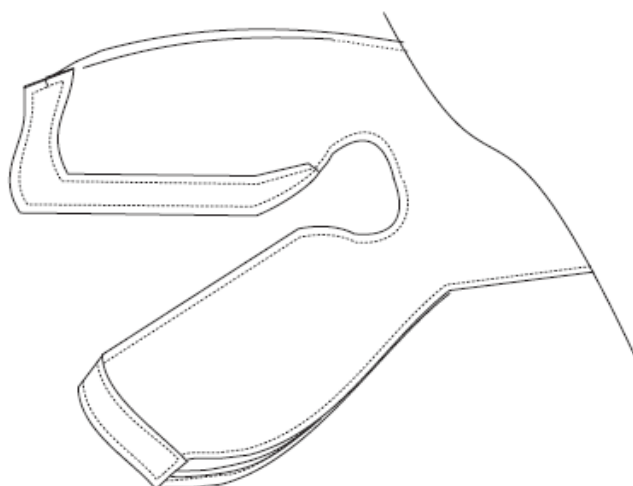

Figure A.16 – Joining the inside and outer over with the centre gusset
3.2.6.2 Join a centre gusset (component 1.4) to the left and right lobes of the outer cover fabric, then join to the inside cover. The seam created by joining the outside edges should be centred on the end of the gusset with the taper of the gusset forming a point as it approaches the neck curve, as shown in figure A.16.